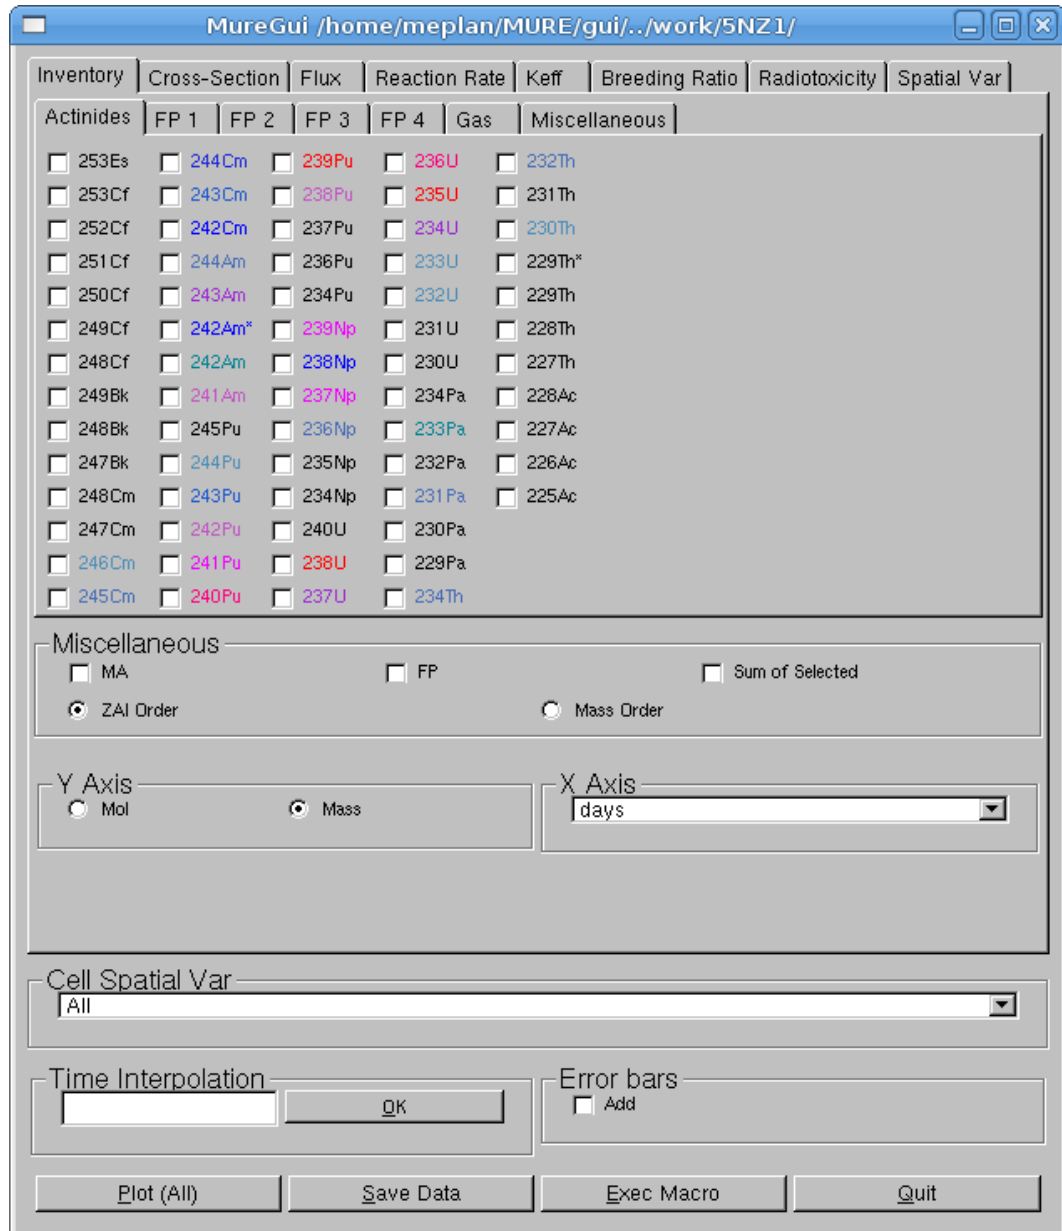

Figure 8.1: MureGui main window. Inventory Tab.
The interface has a Main windows composed of 8 tabs (*Inventories*, *Cross-sections*, *Fluxes*, *Reaction Rates*, *K_{effective}*, *Breeding Ratio*, *Radiotoxicity* and *Spatial Variables*, see Fig. 8.1) and can have up to 8 plot windows
- In the *Inventory* Tab, colors of nuclei (see Fig. 8.1) correspond to the total mass scale importance (red: large mass->black: small mass). Nuclei are sorted in 4 categories (Actinides, Fission Products, Gas, and Miscellaneous) but a nucleus could belong to more than one category (a gaseous fission product is in FP and in Gas). “FP” and “AM” check boxes allows respectively the plotting of total fission products and total minor actinides (Np and Am, Cm, ...) . The total mass of checked nuclei can also be automatically performed using the “*Sum of Selected*” check boxes³. Finally, nuclei inventories are given in “g” or “Mol”. When several physical cells i are selected (see later with Spatial Variable combo box), the total inventory of one nucleus is simply given by the sum of inventories in each region. Thus we have: